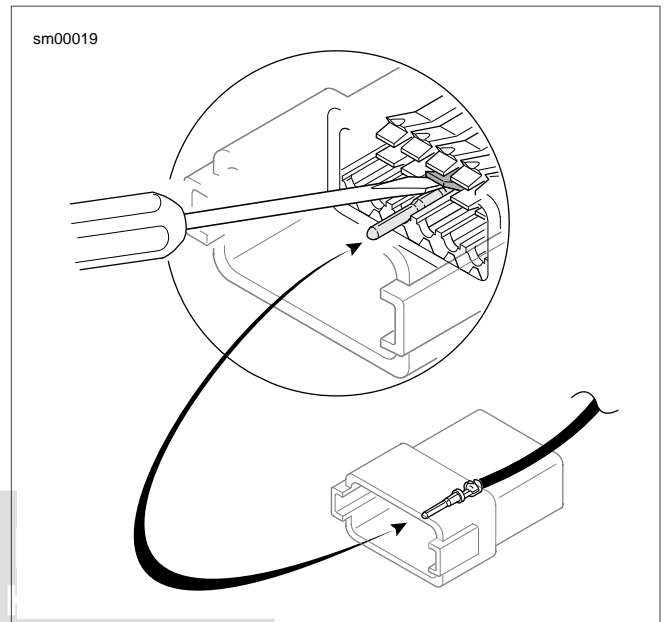

Figure A-34. Deutsch DT Sealed Connector: Press Terminal Latch and Back Out Pin
- See Figure A-34. Use a pick or small screwdriver to press terminal latches inside socket housing and back out sockets through holes in rear wire seal.